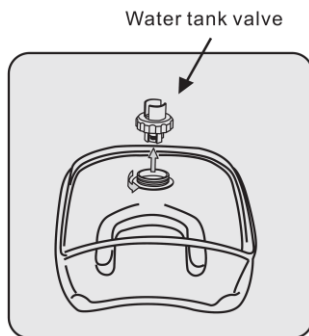

Fig.6
- Remove the water tank, twist off the water tank valve from the bottom. (See Fig.6)